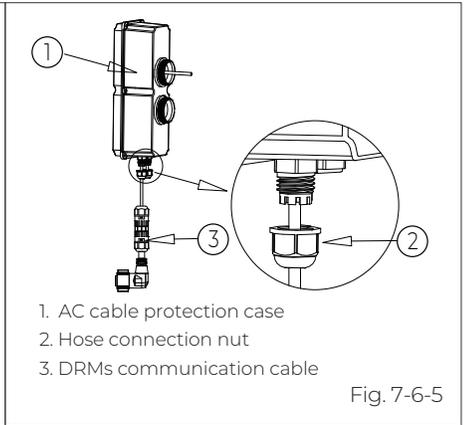

Fig. 7-6-5
**Step 6:** Thread the DRMs communication cable through a PG connector, emerging from the upper hole of the case, as shown in Fig. 7-6-5.